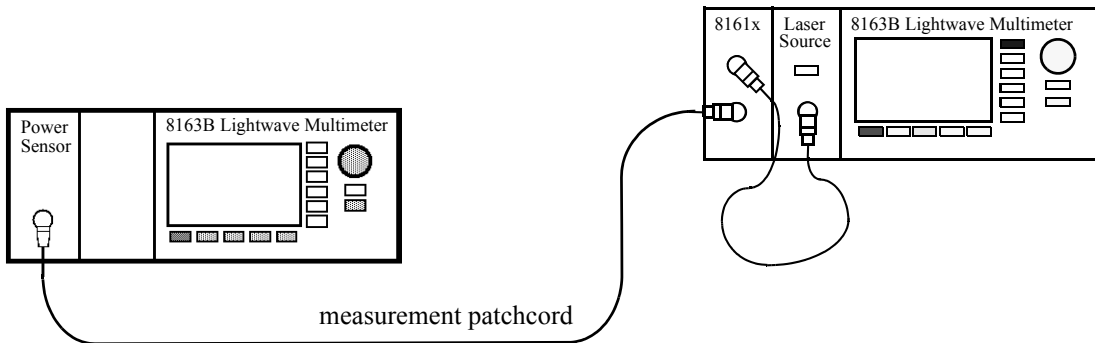

Figure 116 Power Transmitted through the Measurement Patchcord - External Source
- 1 Making sure all the connectors are clean, set up the instrument as shown in Figure 116 on page -195 if you are using an External Source,